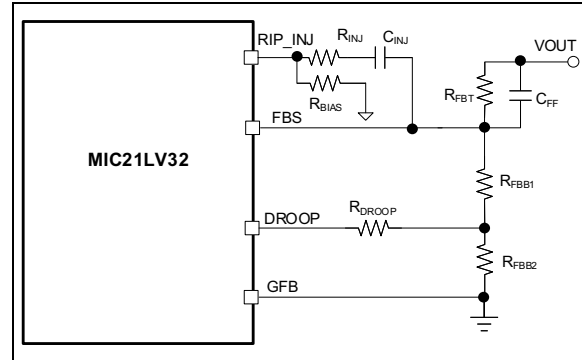

FIGURE 4-16: AVP Implementation for 5V Output with 2% AVP Range for DROOP Pin Range 0V to 600 mV.
The part of the schematic to implement the AVP for a 5V output is shown in Figure 4-16. The underlying assumption is that the current sense is done using sense resistors independent of temperature.
Step 3: The R_{FBB1} is slightly adjusted to get $V_{OUT} \times (1 + \epsilon)$ for $I_{OUT} = 0A$. The result is in Figure 4-16.